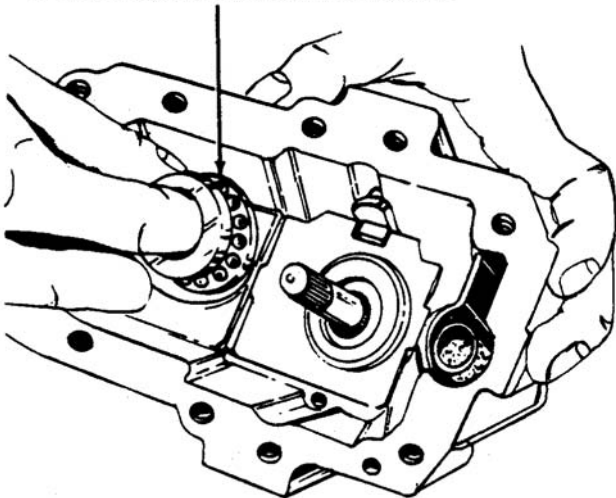

Figure 6-18. Removing Ball Bearings
- c. Remove the thrust ball bearings. See Figure 6-18.